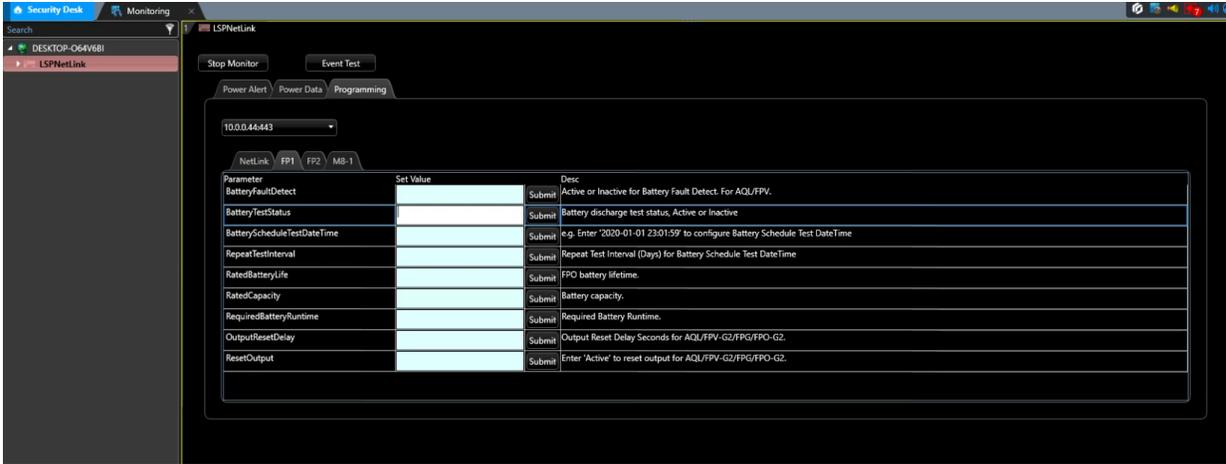

Figure 41
3. To change the available parameters, navigate to the Programming tab, select the tab for the board to configure, and enter the appropriate value(s). (Figure 41)